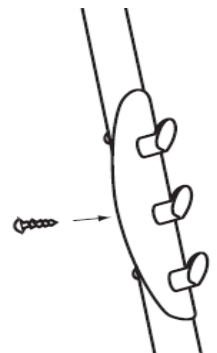

Figure 4
**10** Using the **#10 Self Tapping Screws (G)**, secure the **Brackets** to the **Corner Support Arms** and secure the **Center Coupler** to the **Corner Support Arms**.
**11** You can add the **Towel Hook (E)** at this stage, using the **#10 x 5/8" Self Tapping Screws (G)**. See *Figure 4* (*Instructions continued on the back*)